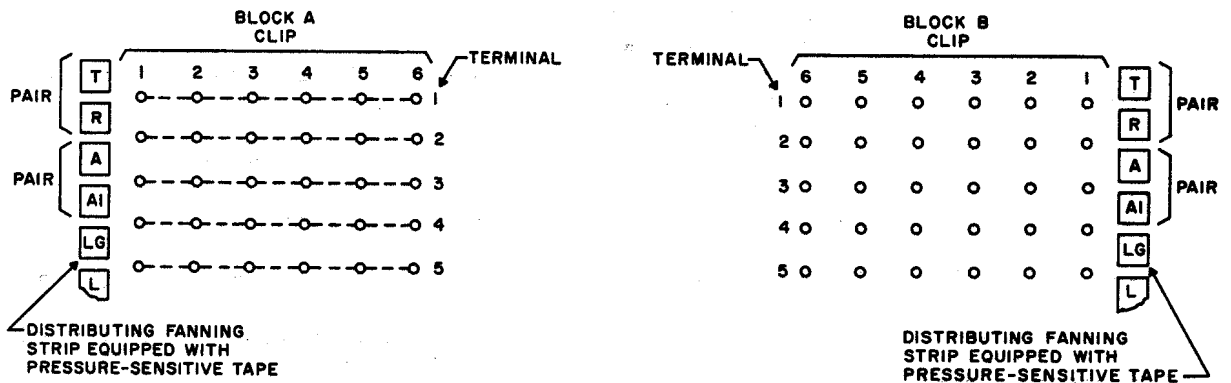

Fig. 1 - Method of Counting 66B1-25 Connecting Blocks
1.03 Fig. 1 shows the method of counting 66B1-25 connecting blocks.
- Fig. 1 - Method of Counting 66B1-25 Connecting Blocks